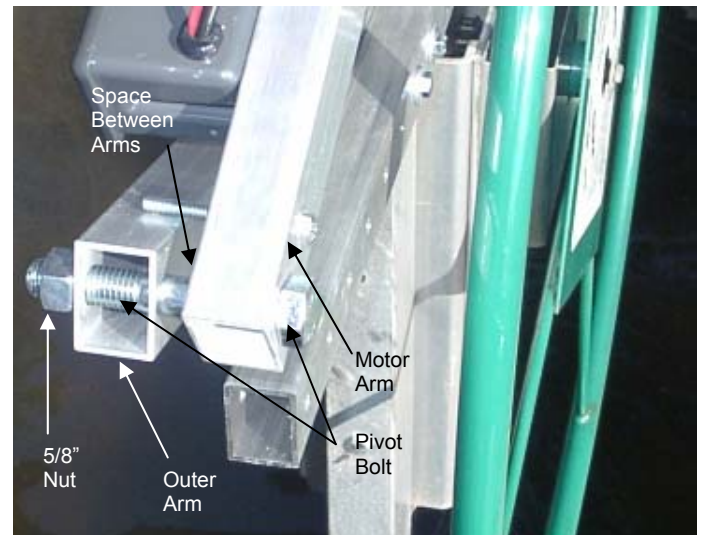

FIG. 15
6. Tighten the 5/8" nut until it just touches the back side of the outer arm. See Figure 15.
Note: Each boat lift will have a different sized space at the pivot point. Some lifts will have no space. See Fig. 15. Even if there is some space between the motor arm and the outer arm where it pivots, the grooved rubber traction wheel should follow the boat lift wheel and not jump off. If you feel you need spacers, purchase large nylon washers at your local hardware store and place them between the arms and over the pivot bolt.